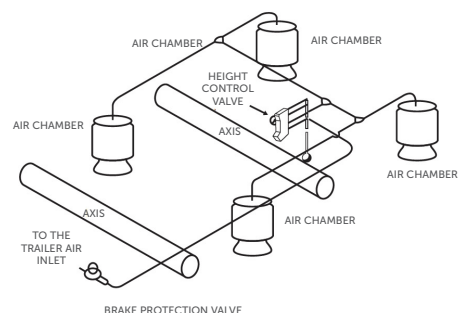

Figure 13
All Hendrickson air suspension models are designed so that only one (1) height control valve is needed per trailer regardless of the number of axles. (See **Figures 13 and 14**). The reason for this is because of Hendrickson's patented design of the tri-functional bushing in conjunction with a fixed connection to the axle (welded and with the "U" screws properly tightened).